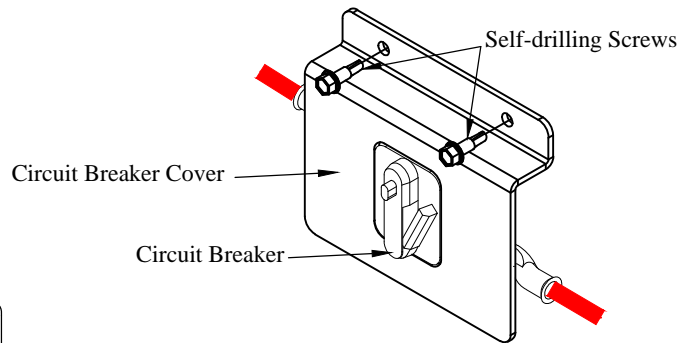

Figure 19: Circuit breaker cover.
15. **Attach** the circuit breaker cover using the supplied self-drilling screws (Figure 19).